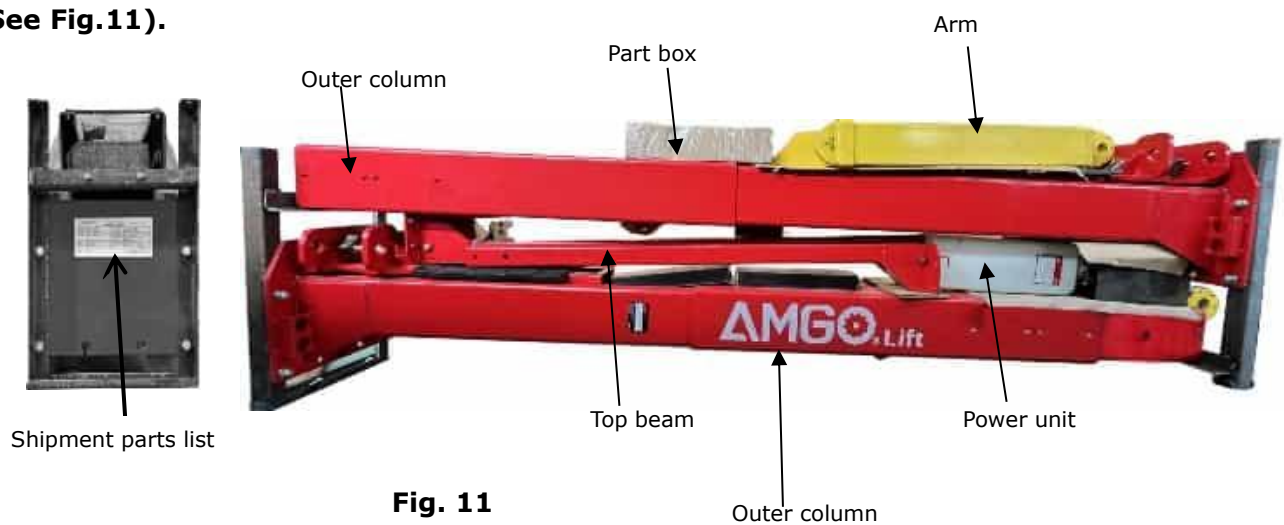

Fig. 11
1. Move aside the lift with fork lift or hoist, open the package, take out the parts above/in upper outer column, check the parts according to the shipment parts list (**See Fig.11**).